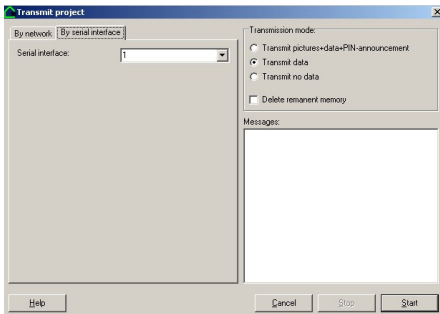

Fig 5.3: Settings for direct data transfer
- Make the settings according to Figure 5.3 (but enter the number of your serial interface).